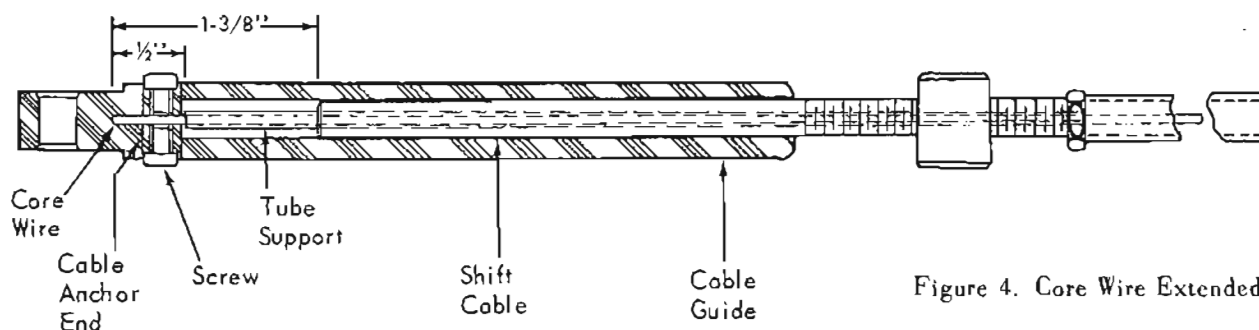

Figure 4. Core Wire Extended
2. Cut core wire to extend 1-3/8" (34.925mm), as shown in Figure 4.